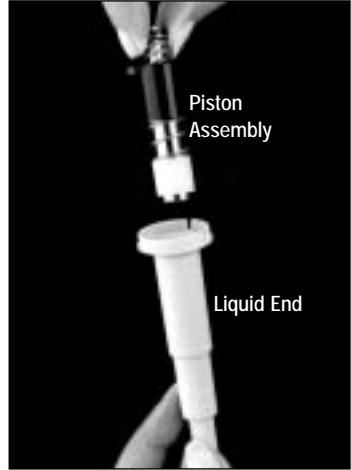

FIGURE 10-2
3. Pull the piston assembly out of the liquid end (Fig.10-2). The seal should stay attached to the piston. If it remains in the liquid end, invert the liquid end and gently tap it on the bench until the seal drops out.